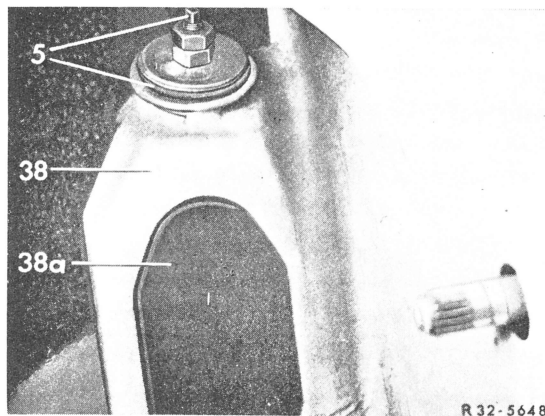

Fig. 4
**Upper shock absorber suspension (Fig. 4)**
7 Unscrew hexagonal nuts on the upper suspension (5) and remove rubber ring (Figs. 4 and 6).